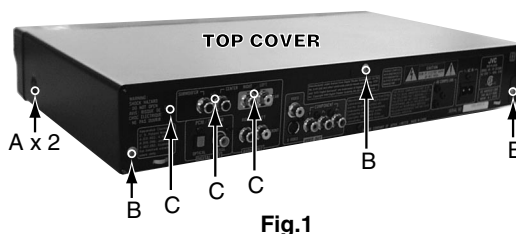

Fig.1
■ Removing the top cover (see Fig.1)
■ Removing the surround audio board (see Fig.1,2)